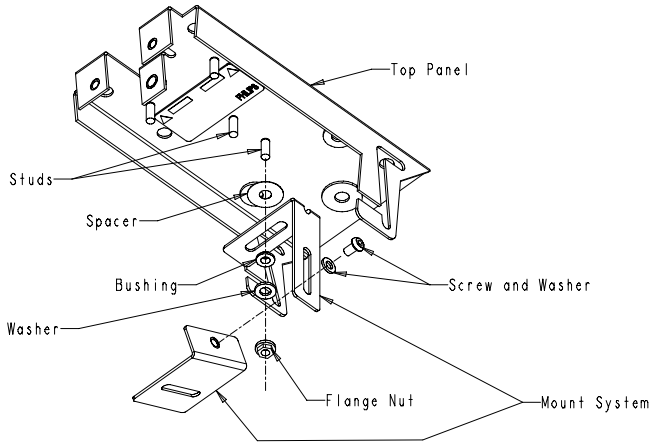

Figure 2: Removing the Mount System
- Unscrew the flange nut and remove the camera mount system from the top panel. See figure 2. Do not lose the parts, they will be needed to mount the camera and reassemble the unit.